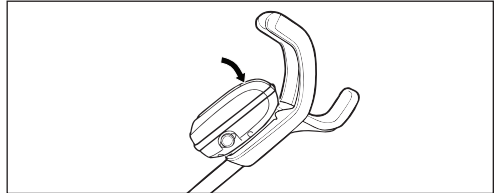

Figure 2. Attach the Control Unit onto Caddy
2. Press control unit onto the caddy hook until it snaps and locks into position (*Figure 2*).